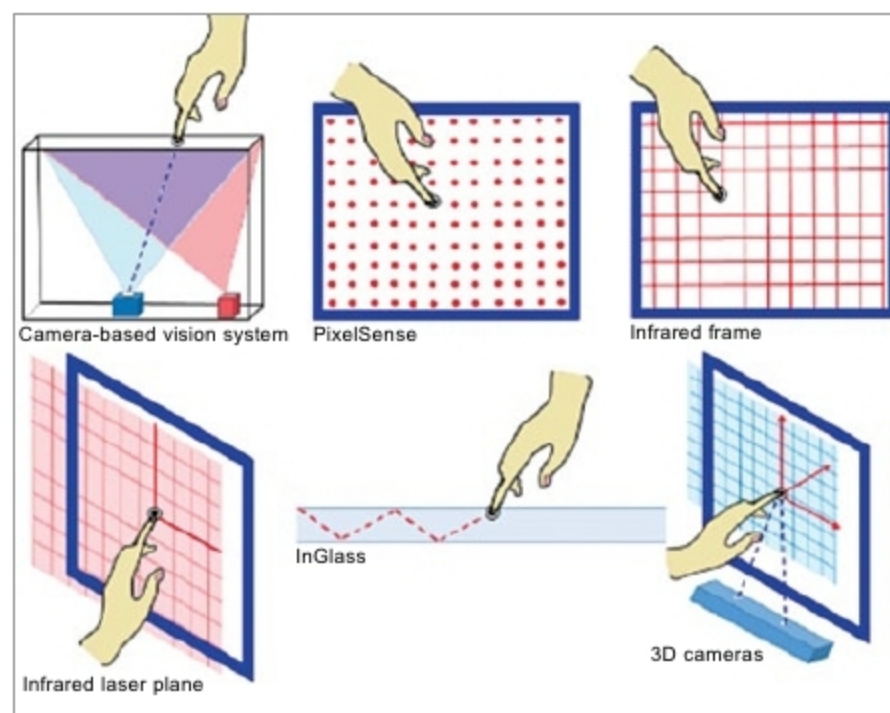
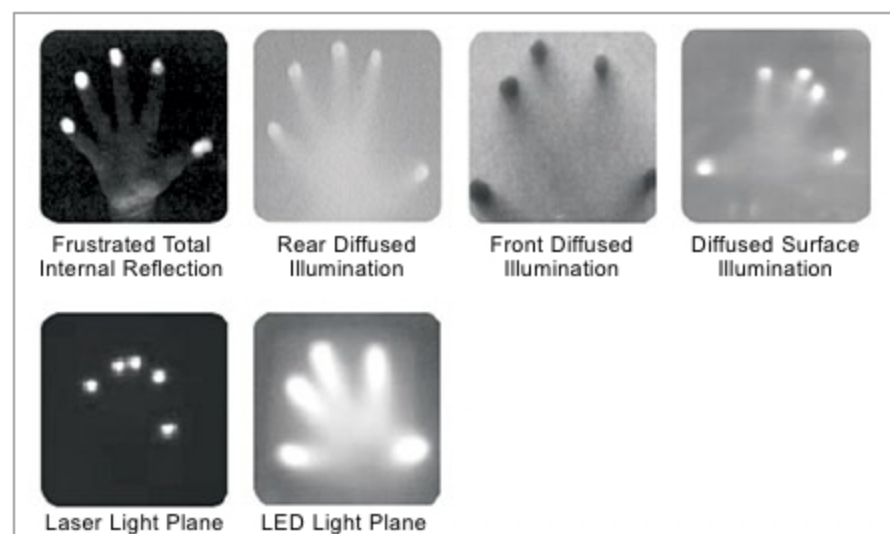

Fig. 10: Various optical systems
Fig. 11: Clarity and precision of detection of objects for all techniques of touch technology (Credit: sethsandler.com/multitouch)
Optical systems. Optical systems are cost-effective and the easiest to create. Fig. 10 shows the various optical systems, wherein each system uses different optical techniques such as frustrated total internal reflection (FTIR), rear diffused illumination (RDI), front diffused illumination (FDI), diffused surface illumination (DI), laser light plane (LLP) and LED light plane (LED-LP). Clarity and precision of detection of objects for each technique can be seen in Fig. 11.